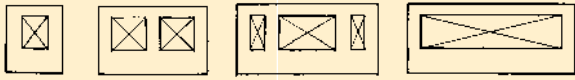

Fig. 1 Narrow, Single, Series, & Wide
- They may contain a single opening or a series of windows (Fig. 1)